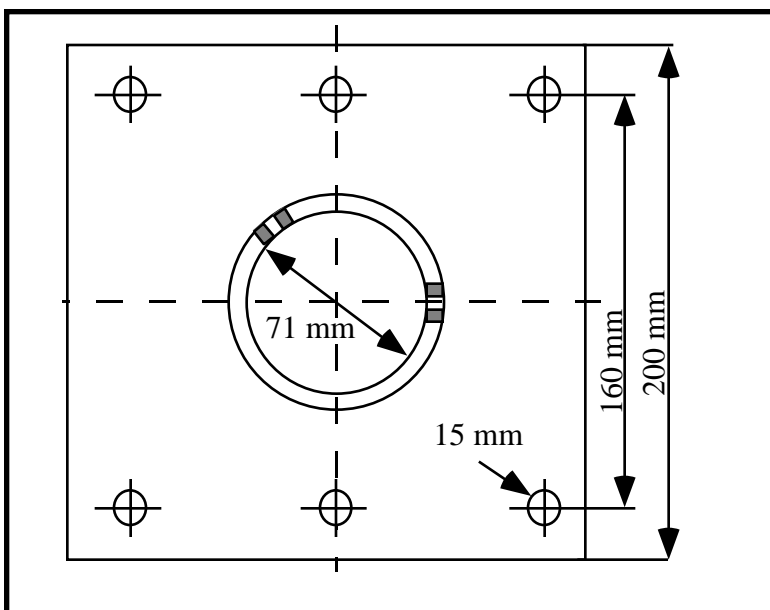

Fig. 1: Dimensions of the base mounting plate.
1. To ensure the mechanical stability of the mount, we recommend to limit the length of the mounting post to 80 cm for pedestal and 50 cm for wall mounting. Fig.1 shows a schematic drawing and the dimensions of the base mounting plate.